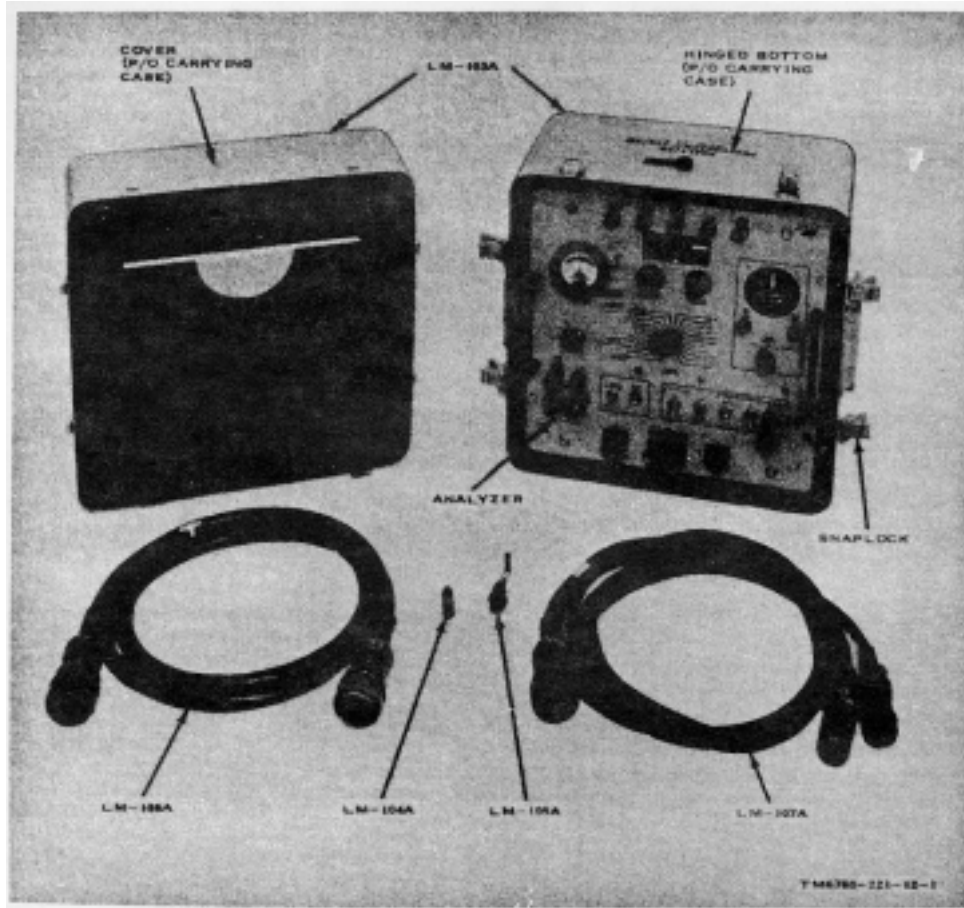

Figure 1. Analyzer, Photographic Surveillance System LS-35A (less running spares); part of Test System, Photographic Surveillance LS-34A.
b. Use. The camera system test equipment, consisting of four major groupings of equipment ((1) through (4) below), is used to test the components of Camera, Still Picture KA-39A and the ACCS components.
- (1) *Test System, Photographic Surveillance LS-34A* (fig. 1, 2, and 3). The LS-34A consists of three major components: Analyzer, Photographic Surveillance System LS-35A, Simulator, Control System, Camera LS-36A, and Simulator Group LM-97A.
- (a) *Analyzer, Photographic Surveillance System LS-35A* (fig. 1). The LS-35A is used to select, route, and measure the output signal voltages of an ACCS that is being tested.
- (1) *Analyzer, Photographic Surveillance System LS-35A* (fig. 1).